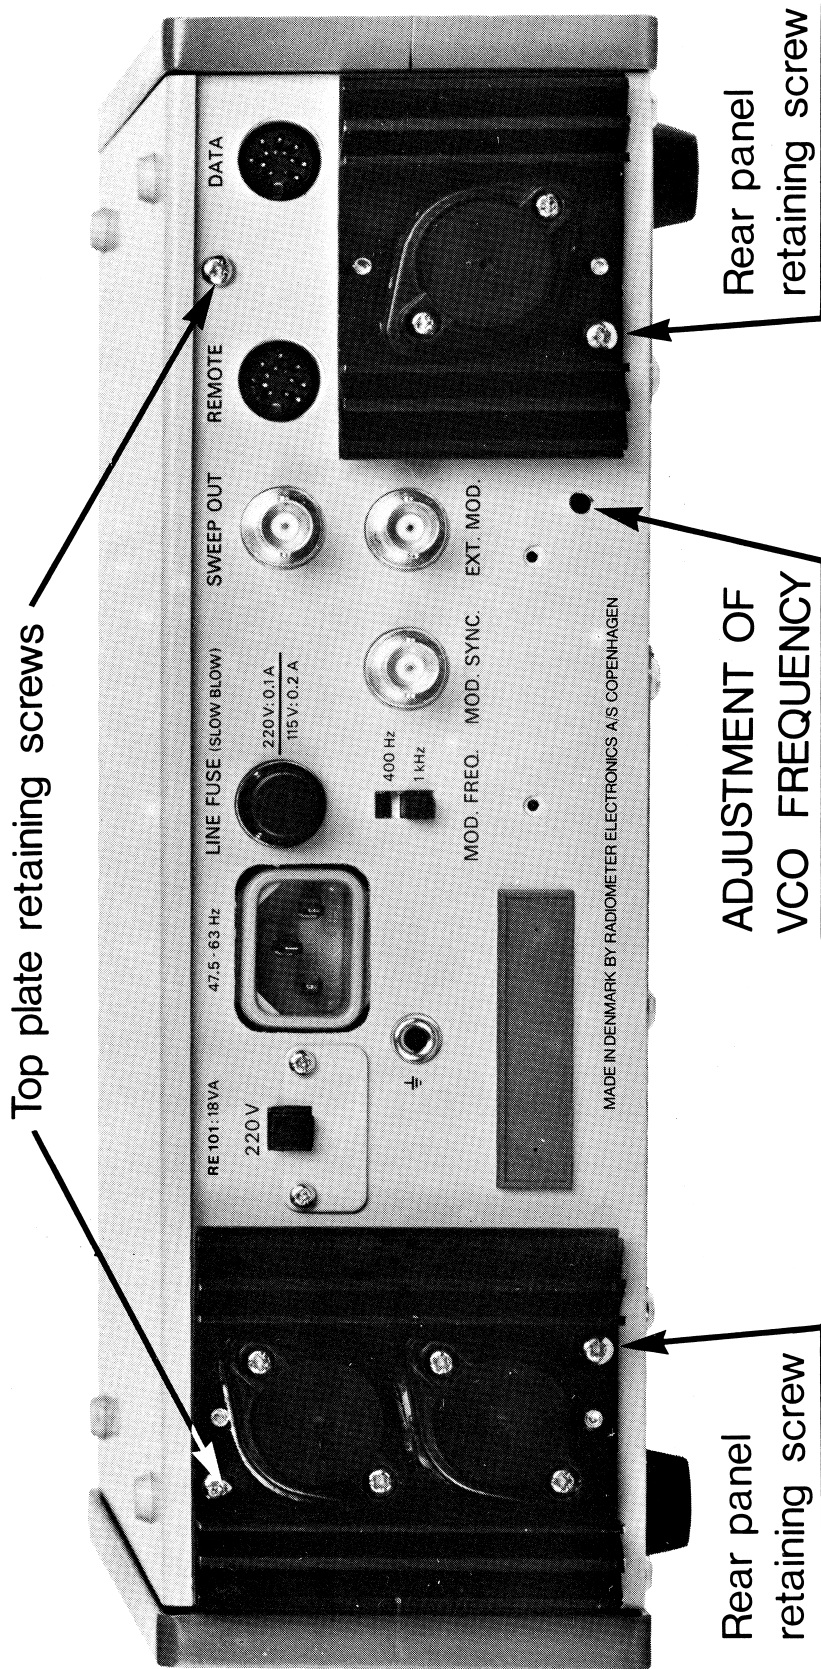

Fig.E1 Rear view.
2. Unscrew the two lower screws on the rear panel, see Fig. E1.